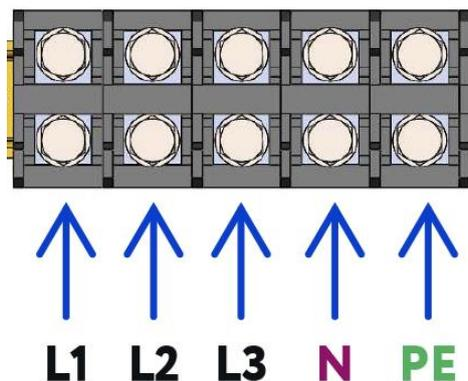

Figure 6
- To the terminal block as shown in Figure 6 (for the case using a 3-phase connection or only L1 for a single-phase connection).